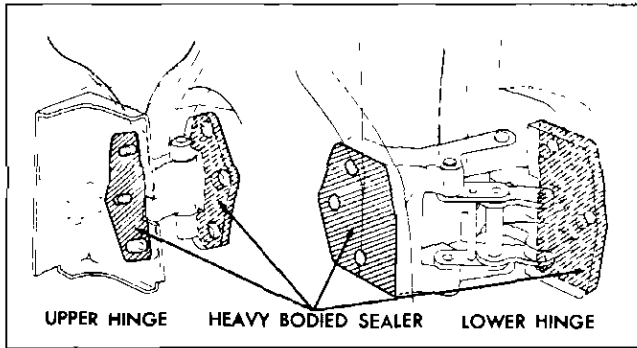

Fig. 2-32 Rear Door Hinge Anti-Squeak and Sealing
2. Apply a coat of heavy-bodied sealer to attaching surfaces of hinge straps or corresponding surfaces of door or body (Fig. 2-32).